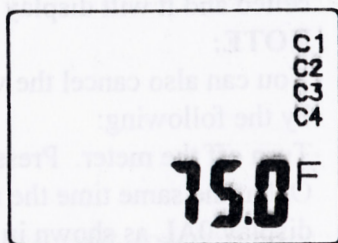

FIG 18
4. Press PRG key until it displays SA, release it, the display will show as Fig. 18 with C1 flashing.